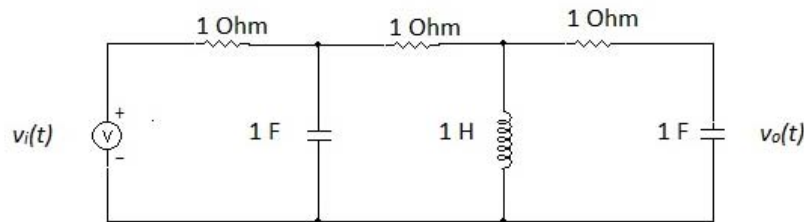

Fig Q1
- Represent the electrical network shown in Fig Q1 in state space, where  $v_o(t)$  is the output. [15]